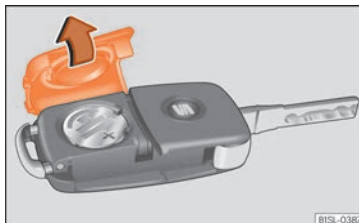

**Fig. 87** Vehicle key: battery compartment cover.
- Remove the cover from the back of the vehicle key » **Fig. 87** in the direction of the arrow » ❶.
- Fit the cover as shown » **Fig. 87**, pressing it onto the vehicle key casing in the opposite direction to that shown by the arrow until it clicks into place.